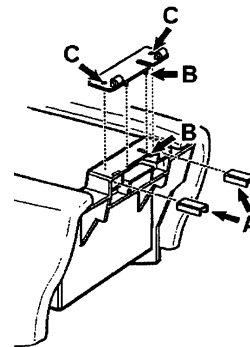

Figure 2
2.1. Fully insert both U-brackets into the rear of the center console as shown in Figure 2, arrow A. (The open side of the U-brackets point downward.)
2.2. Position the hinge plate on the center console using the two locating studs as a guide. (Figure 2, arrow B). Using a 4.0 mm drill bit, drill two holes through the center console and U-brackets, (arrow C) using the hinge plate as a drilling template. Vacuum up any drilling particles.